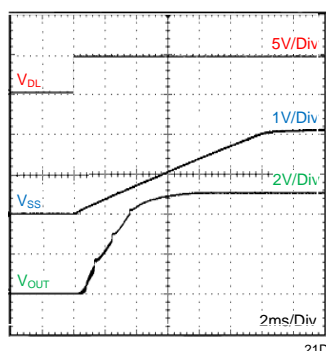
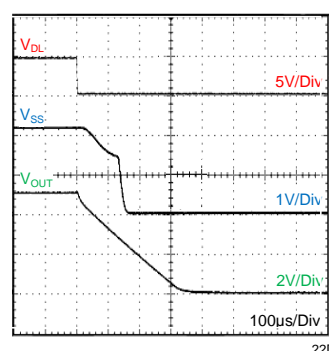

Figure 9. Deadlock start-up $I_{OUT} = 2A$
Figure 10. Deadlock shut-down $I_{OUT} = 2A$
Turning Q1 on applies a low voltage to the deadlock control (DL) pin and disables the output of the supply, shown in Figure 10. If Q1 is turned off, the supply executes a soft-start power-up sequence, as shown in Figure 9. A regulated output voltage is produced within 5 ms.